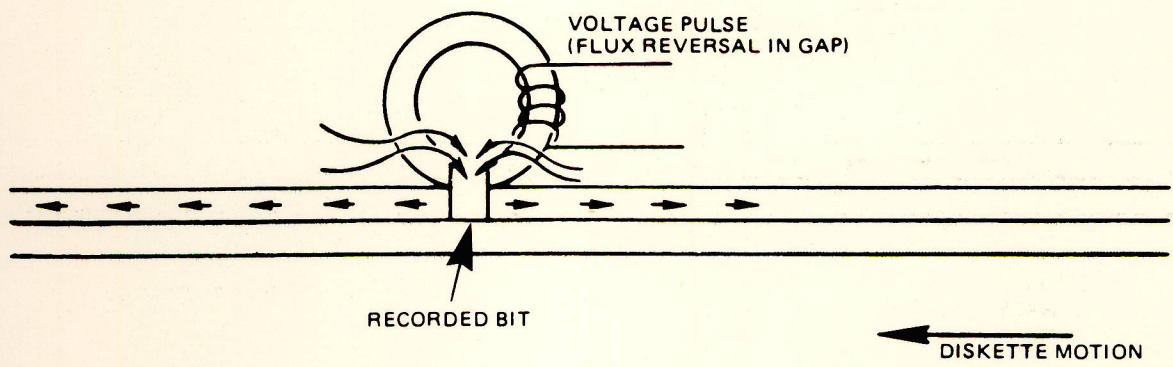

FIGURE 28 READING A BIT
4.4 During a read operation, a bit is read when the flux direction in the ring is reversed as a result of a flux reversal on the diskette surface. The gap first passes over an area that is magnetized in one direction, and a constant flux flows through the ring coil. The coil registers no output voltage at this point. When a flux transition passes under the gap, the flux flowing through the ring and coil will make a 180° reversal. This means that the flux reversal in the coil will cause a voltage output pulse. See Figure 28.